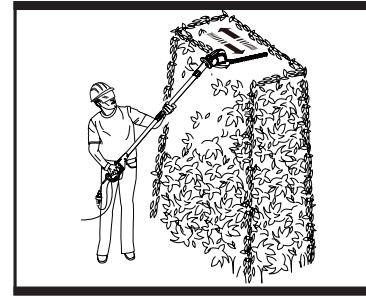

Fig. 6c
7). Move the product with slow motion forward when cutting higher hedge and the cutting area out of sight. (See Fig. 6c).